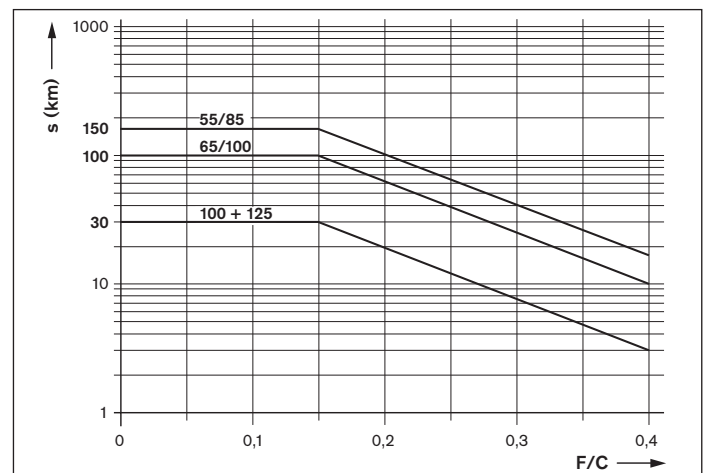

Fig. 14
- ▶ When the travel distance shown as the relubrication interval in Fig. 14 has been reached, apply the relubrication quantity as specified in Table 11.
- ▶ When the travel distance shown as the relubrication interval in Fig. 14 has been reached, apply the relubrication quantity as specified in Table 11 per lube port.